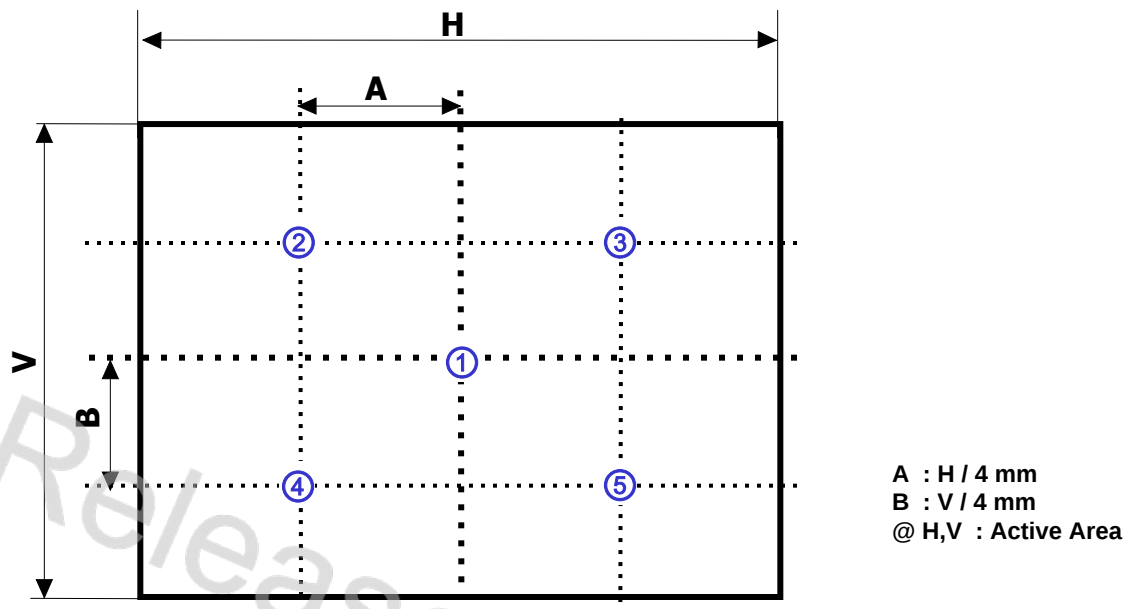

FIG. 2 5 Points for CR Measure
n = the Position number(1, 2, 3, 4, 5). For more information, see FIG. 2.
2. Surface luminance are determined after the unit has been 'ON and 60min after lighting the backlight in a dark environment at 25±2°C. Surface luminance is the luminance value at center 1-point across the LCD surface 50cm from the surface with all pixels displaying white. For more information see the FIG. 2.
For more information, see the FIG. 2.